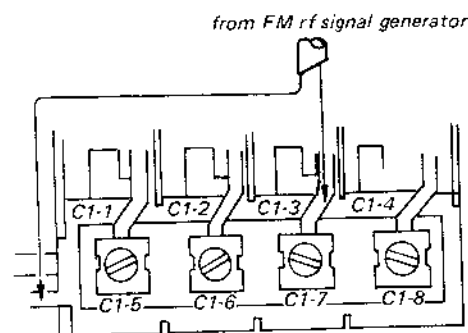

Fig. 3-3. FM rf signal generator coupling for FM i-f alignment.
- FM rf signal generator coupling: Direct connection to FM tuning capacitor (for FM) or FM/AIR external antenna terminals (for AIR). See Fig. 3-3 and 3-7.
- TONE control setting: fully clockwise (H)